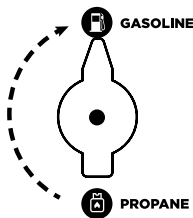

Figure 10 - Fuel Selector - Gasoline
7. Move the fuel selector switch to **Gasoline** (see Figure 10).